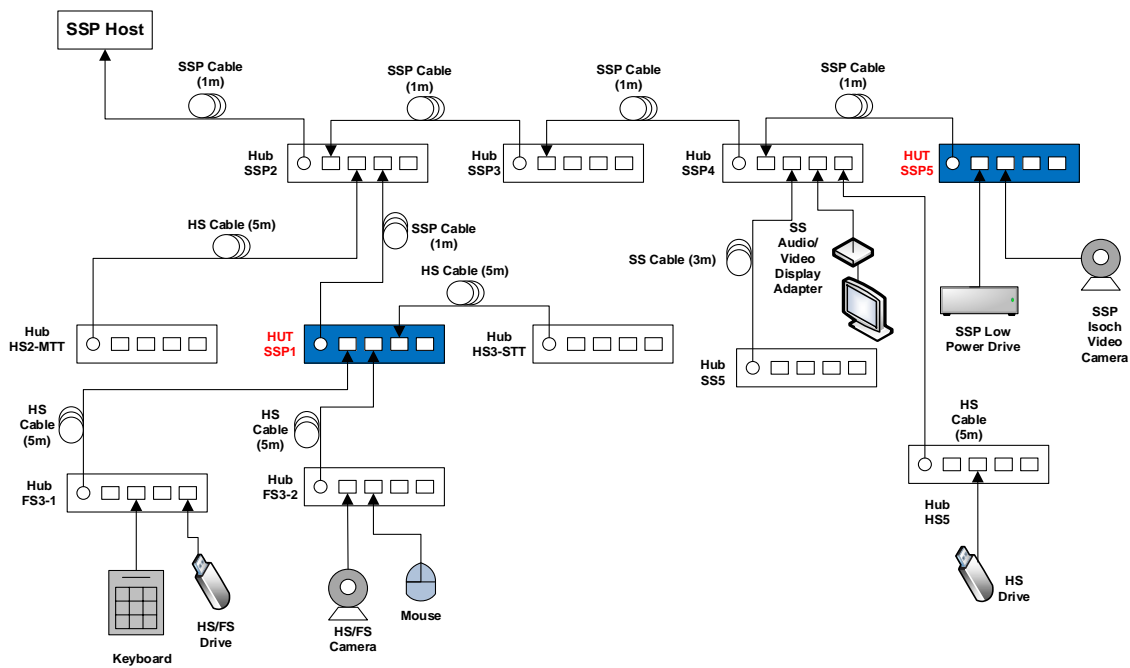
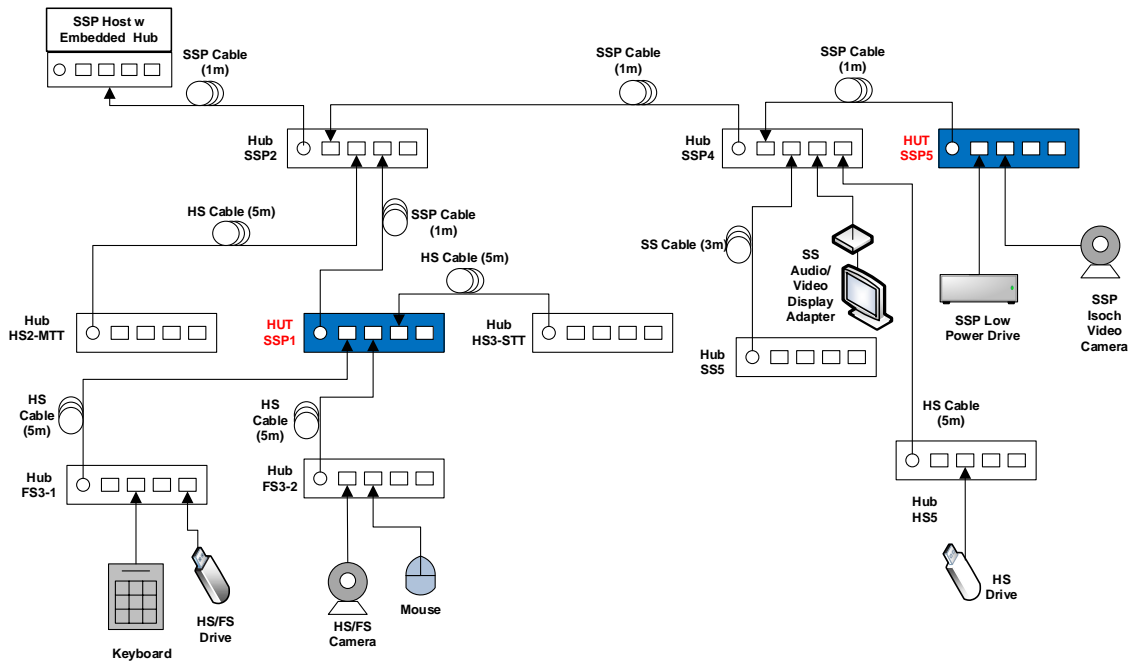

Figure 3-3: Topology Change 1
Figure 3-4: Topology Change 1 (embedded hub)
- Reattach the Hub Under Test SSP1 to port 3 of Hub SSP2. Then attach Hub HS2-MTT to port 2 of Hub SSP2 and Hub HS3-STT to port 3 of the Hub Under Test SSP1. Then attach Hub FS3-1 to port 1 of the Hub Under Test SSP1. Then attach Hub FS3-2 to port 2 of the Hub Under Test SSP1 as shown in Figure 3-3 and Figure 3-4.